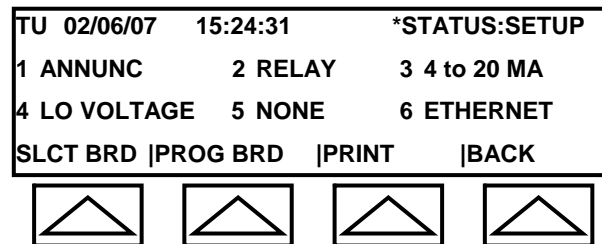

Fig. 4-15a: System Interface Boards
The screen will appear as in Figure 4-15a.
1. Starting with the System Interface Boards Screen (see Figure 4-15a) Select SLCT BRD to move the cursor until it rest on the desired board. (For this illustration, we choose Slot #2 – the relay board).